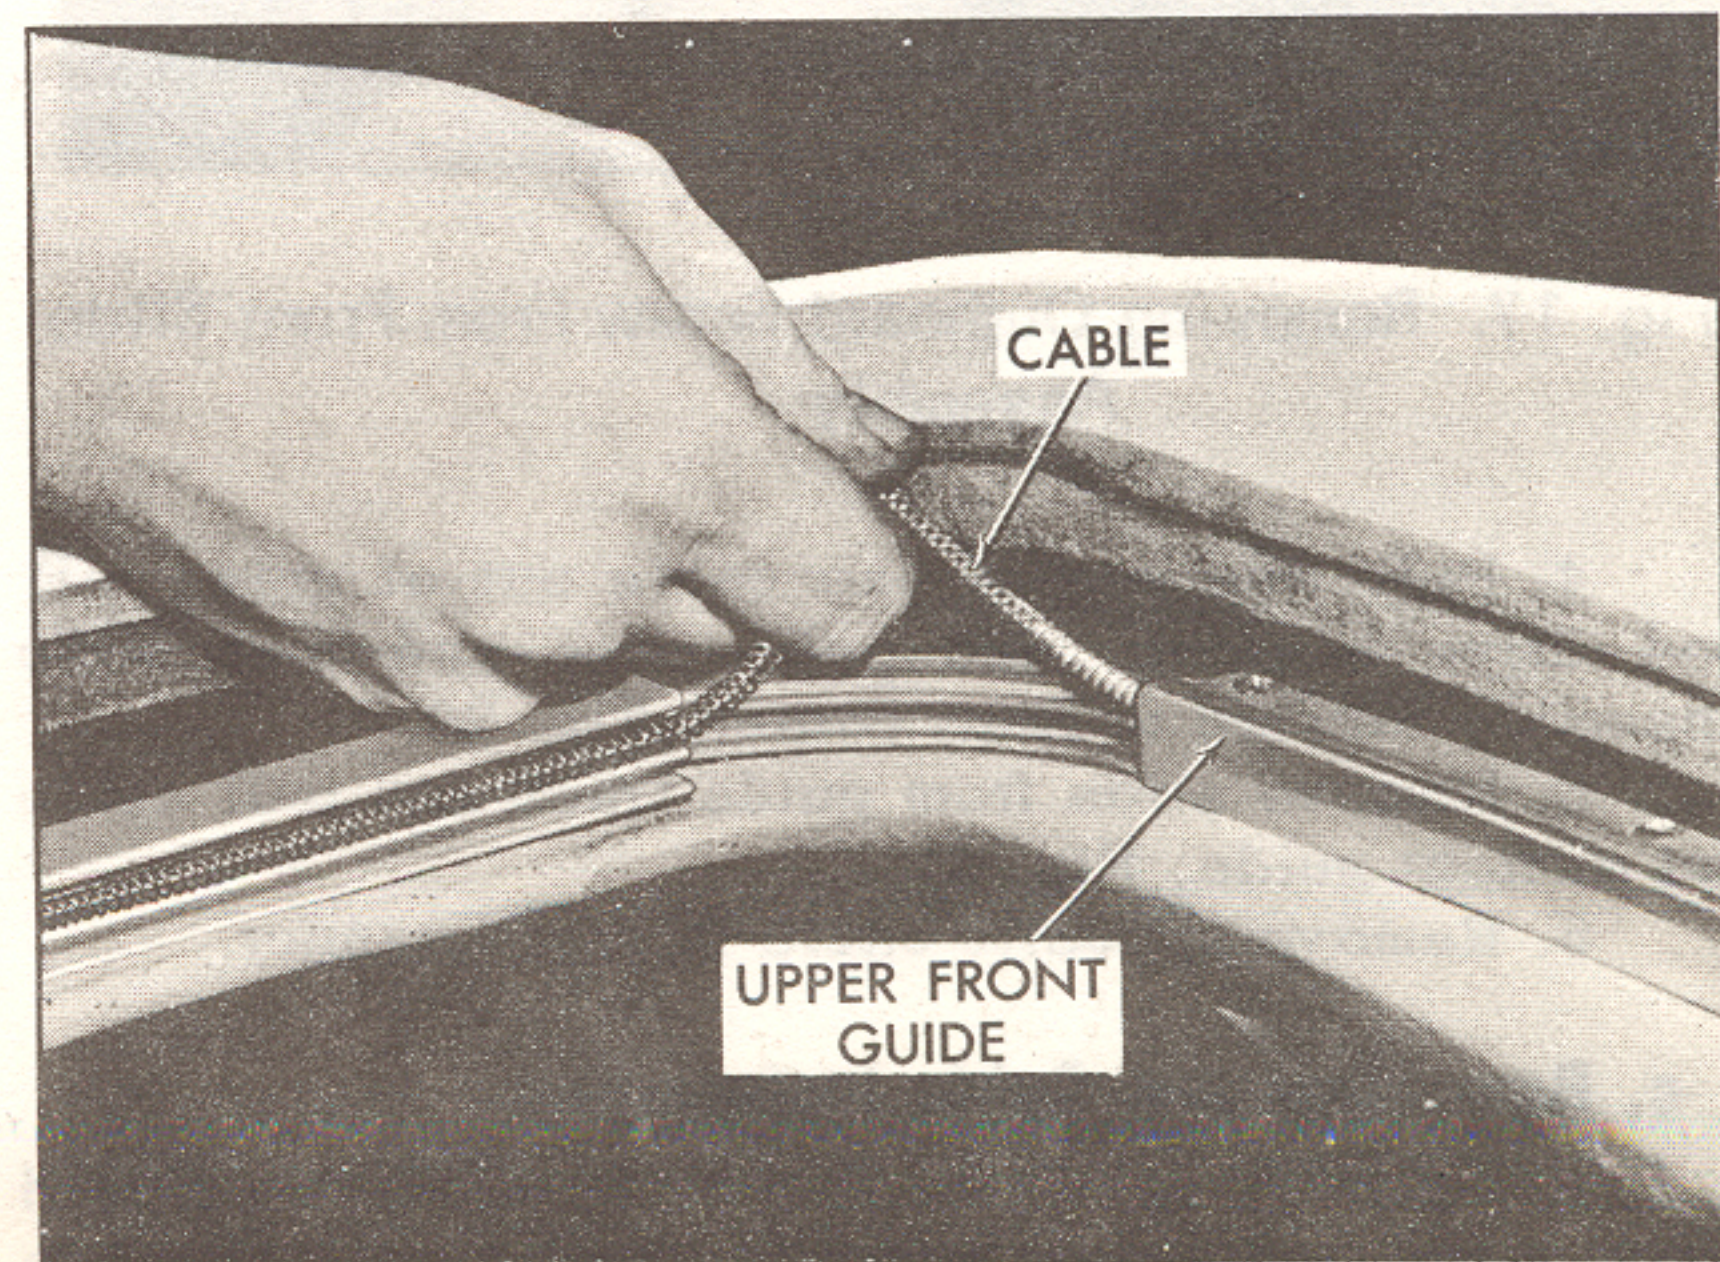

Fig. 23. Installing Cable into Upper Front Guide
2. Slide free end of cable into upper front guide, Fig. 23, and route cable through the curved front center track in drive cable housing and into lower track on right side. Do not engage cable in drive pinion teeth, Fig. 24.